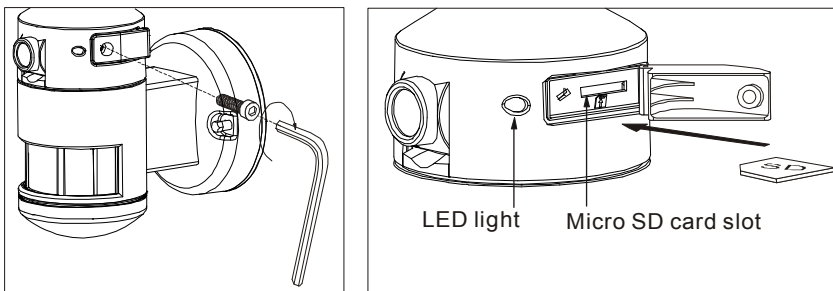

Fig. 1
STEP 1. INSERT/REMOVE MICRO SD CARD (SEE FIG. 1):